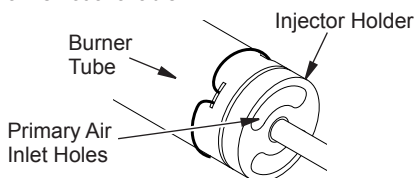

Figure 28 - Injector Holder On Outlet Burner Tube - Rear Burner
2. Inspect burners, pilot and primary air inlet holes on injector holder for dust and dirt (see Figures 28 or 29).